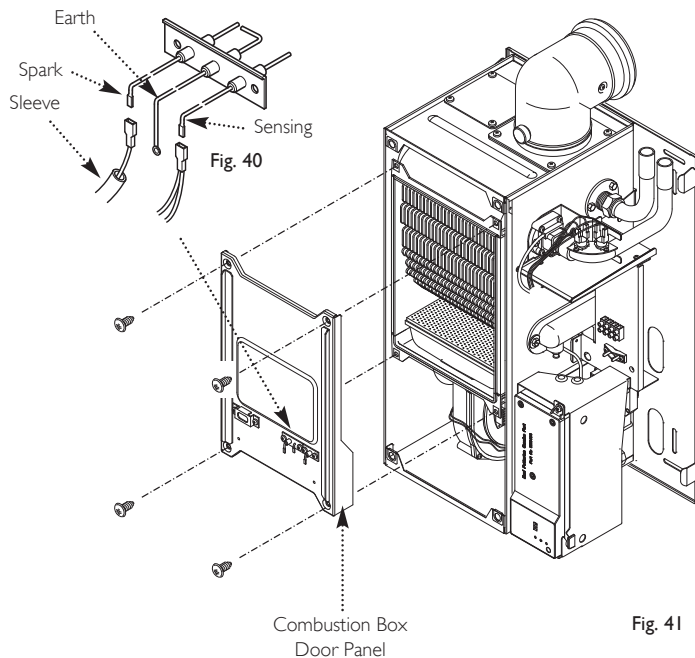

Fig. 41
9. Undo the four screws securing the combustion box door and remove the door (Fig. 41).